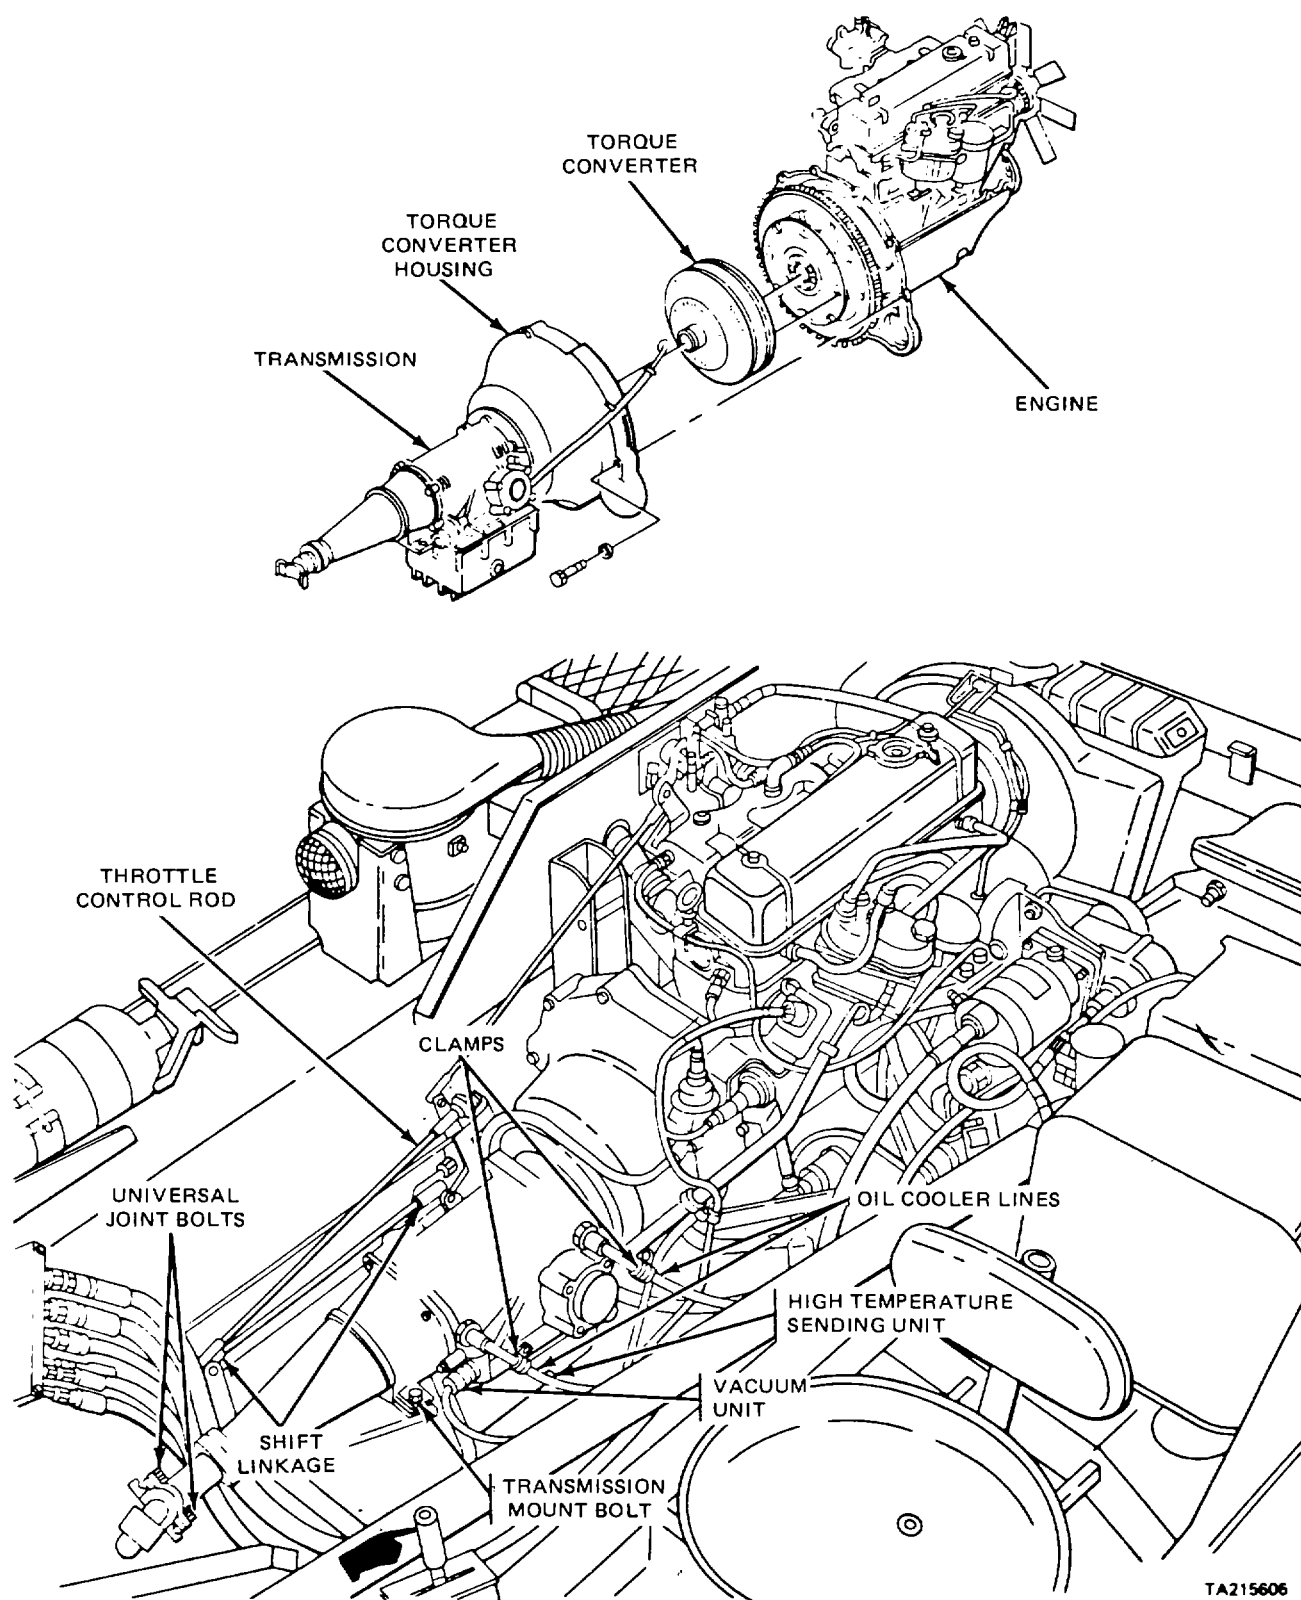
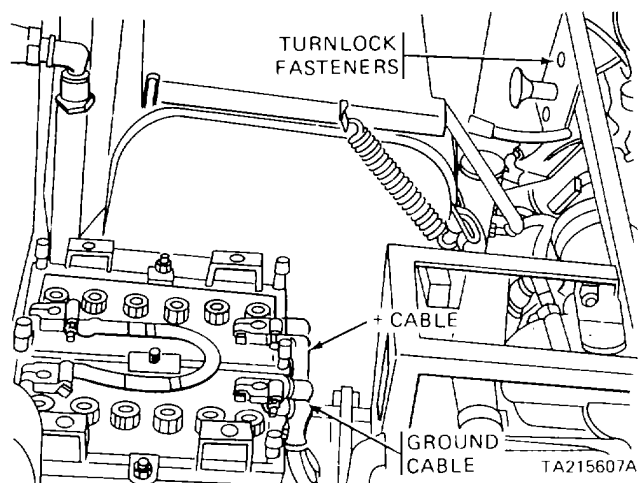
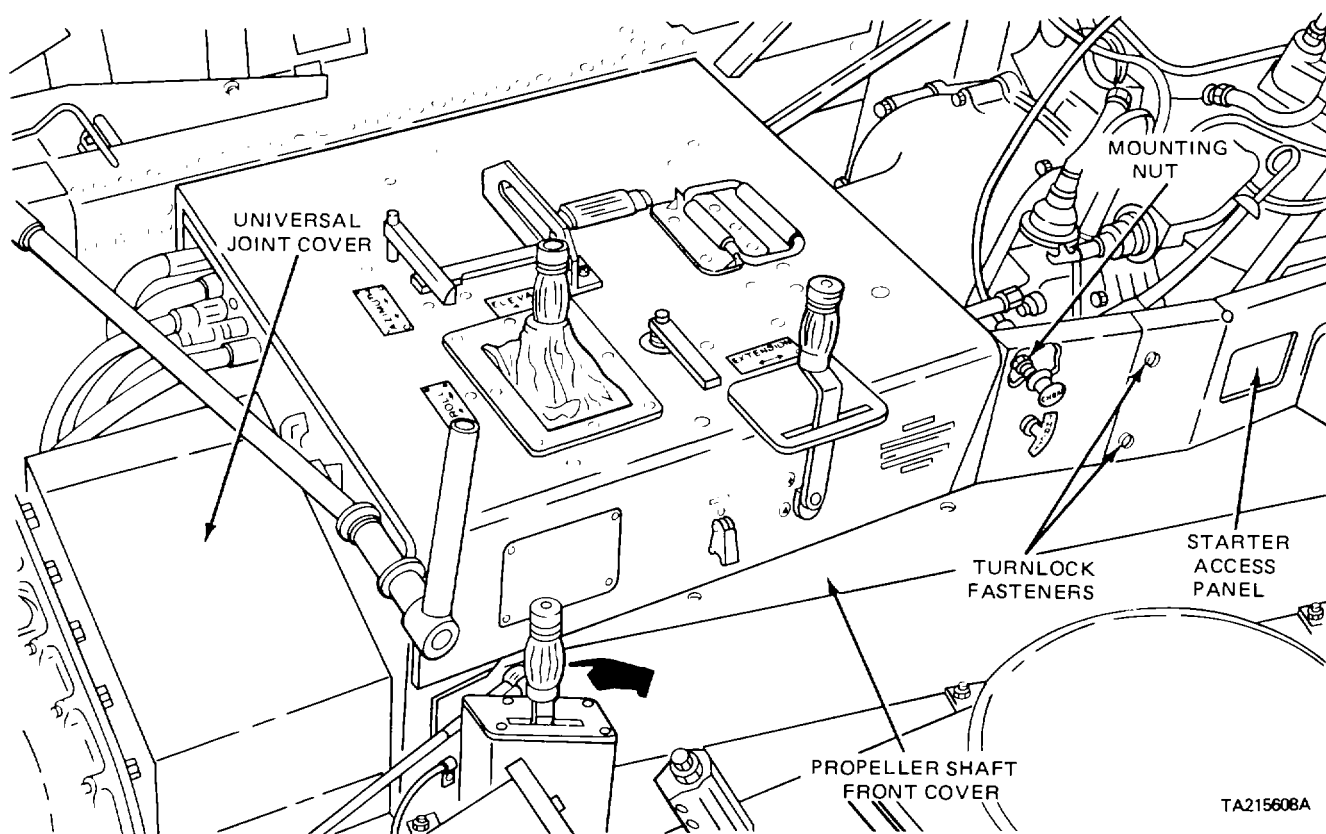

Figure 4-1. Engine and Transmission Replacement - Throttle and Shift Linkage Removal
Figure 4-1.1. Engine and Transmission Replacement - Battery Cable and Master Switch Removal
Figure 4-1.2. Engine and Transmission Replacement - Starter Switch Access Panel Removal
a. Removal (fig. 4-1 through 4-1.5).
- (1) Position superstructure to park position and relieve hydraulic pressure (refer to TM 9-1450-500-10).
- (2) Remove quick release pin which secures end of operator's protective device to rear missile support leaving other end attached to mounting stanchion. Position free end forward and lay on lowered forward missile support.
- (3) Remove air cleaner assembly.
- (4) Remove two nuts and screws securing rear missile support. Remove rear missile support.
- (5) Remove battery cover and propeller shaft rear cover (refer to TM 9-1450-500-20).
- (6) Disconnect ground cable first, then
- (8) Disconnect turnlock fasteners (fig. 4-1.1) which secure master switch.
- (9) Remove clamp from choke cable. Disconnect choke cable at carburetor. Remove mounting nut from choke knob and remove choke cable.
- (10) Remove universal joint covers and propeller shaft forward cover (refer to TM 9-1450-500-20).
- (11) Disconnect master switch wiring.
- (12) Disconnect two turnlock fasteners and remove starter access panel (fig. 4-1.2).
- (20) Remove four screws, washers, and nuts which secure right-hand, forward, missile support handle to console frame.
- (21) Remove screw, five nuts and five washers which secure console and console frame to chassis. Lay console and frame forward over transfer transmission and against fender.
- (22) Disconnect throttle and shift linkages at transmission. Remove clamps and disconnect oil cooler lines (fig. 4-1). Cap ports.
- (1) Place superstructure in park position (refer to TM 9-1450-500-10).
- (2) Remove battery cover and disconnect ground cable. Disconnect battery cables at battery (fig. 4-1.1).
- (3) Remove grille, hood cover, hood and rear propeller shaft cover (refer to TM 9-1450-500-20).
- (4) Remove propeller shaft forward cover.
- (5) Disconnect three turnlock fasteners (fig. 4-1.1) which secure master switch.
- (6) Disconnect four turnlock fasteners and remove starter access panel (fig. 4-1.2).
- (7) Loosen choke cable clamp on rocker arm cover. Disconnect cable at carburetor. Remove mounting nut from choke knob and remove choke cable.
- (8) Remove four screws, washers, and nuts which secure right forward missile support handle to console frame.
- (9) Remove universal joint access cover (refer to TM 9-1450-500-20).
- (10) Remove screw, five nuts and five washers which secure console and console frame to chassis. Lay console and frame forward over transfer transmission and fender.
- (11) Disconnect throttle and shift linkages including transmission-to-engine throttle rod, at transmission.
- (12) Remove vacuum hose at transmission
- (13) Remove transmission bottom access cover (refer to TM 9-1450-500-20).
- (14) Remove torque converter access' cover.
- (15) Drain transmission and torque converter (refer to LO 9-1450-500-12).